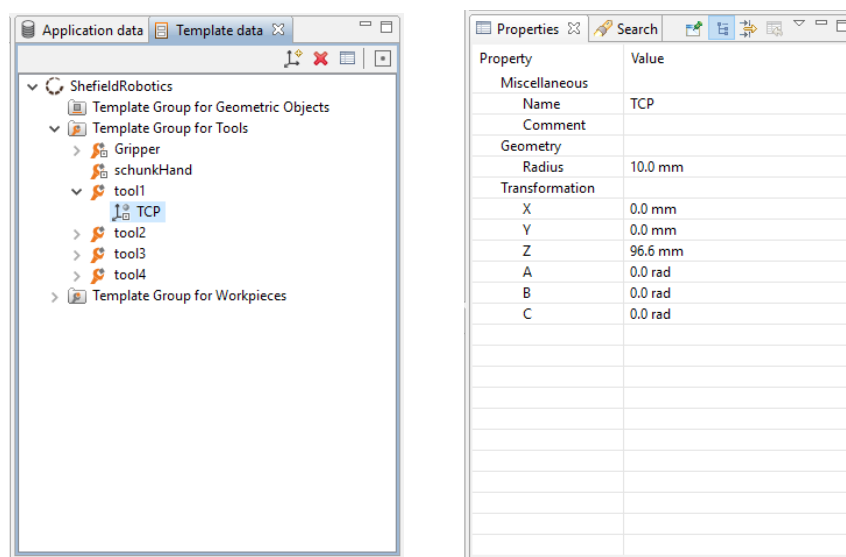

Figure 3. Creating a default tool.
- 3) Create a default tool (see Figure 3):